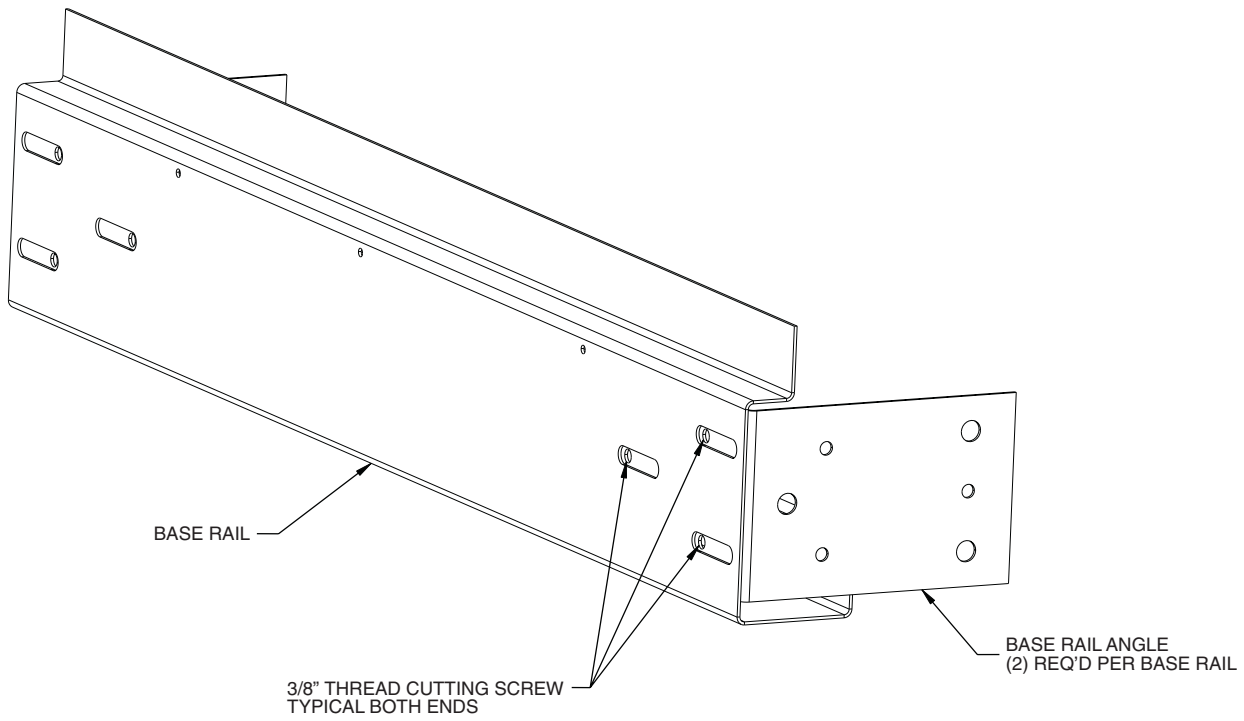

Fig. 1 — Typical Base Rail Section
2. Using the 3/8-in. thread cutting screws (Item 9), attach two base rail angles (Item 2) to the inside of each base rail section (Item 1). Leave the screws loose so that the slots in the base rail sections can be used for adjustment. See Fig. 1.